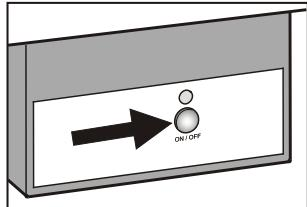

Figure 21
*The ice maker can also be turned on and off by pressing the **On/Off** button at the ice maker housing for approximately 1 second (**Figure 21**).*